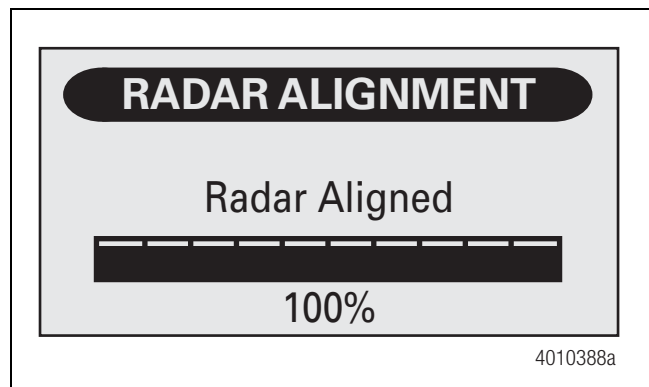

Figure 12
3. Wait until the Radar Aligned screen appears. Figure 12. This typically takes 10 to 30 minutes of driving time to complete.